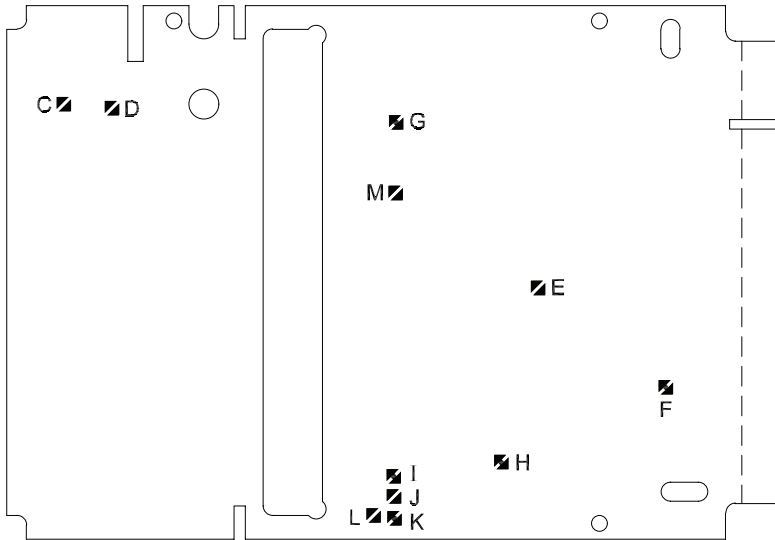

Figure 5.3 Solder Switch Locations
On the 20 V and 200 V ranges, the signal voltage must be scaled by 1/10 and 1/100, respectively. For all ranges, the standard reference input impedance ratio is 80 ohm. For 100 Mohm, open solder switch F on the main board (**Figure 5.3**). The reference voltage must be between the limits specified, +0.5 to +2.0 V, and must be positive with respect to analog ground.
*Refer to **Figure 5.3**.